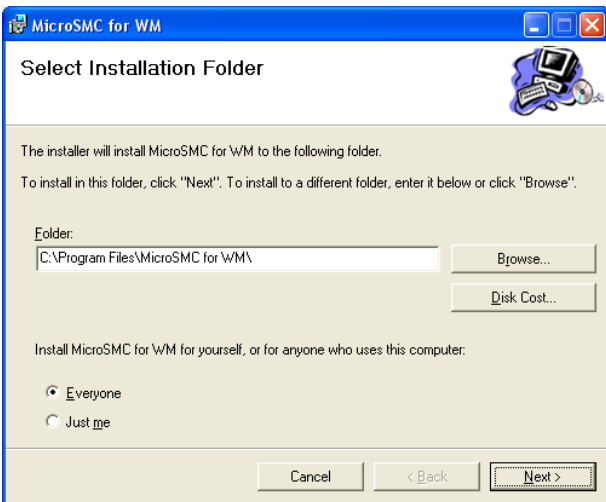

Figure 54. MicroSMC for WM host PC installation 3rd screen
- Select destination folder and press the “Next>” button (see Figure 54).